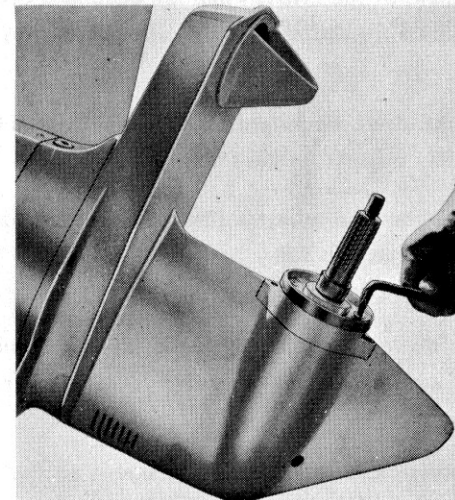

Fig. 9
2. Pull off the propeller and unscrew the two slotted screws which retain the zinc ring (see Fig. 9) so that the ring can be removed from the propeller housing. Scrape the contact surface against the bearing housing until it is clean.